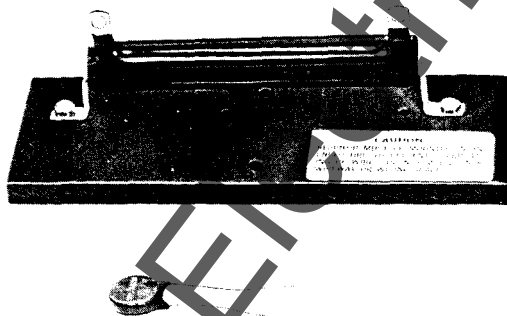
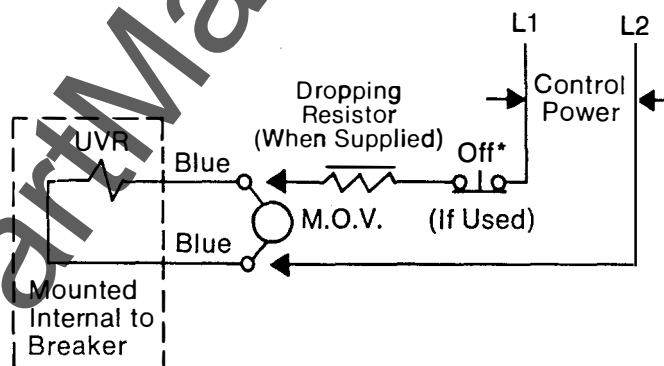

FIG. 30
FIG. 31. WIRING DIAGRAM
12. Mount the dropping resistor (when supplied) and M.O.V. (Fig. 30). Wire as shown in Fig. 31.